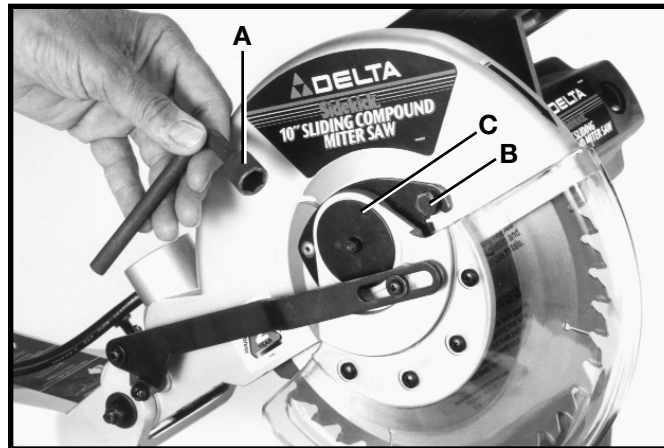

Fig. 87
2. Using the special wrench (A) Fig. 87, supplied, loosen screw (B) to free arbor cover (C).
8. Rotate arbor cover (C) Fig. 87, until hook in cover is engaged under screw (B) and tighten screw (B) which was loosened in **STEP 2**.